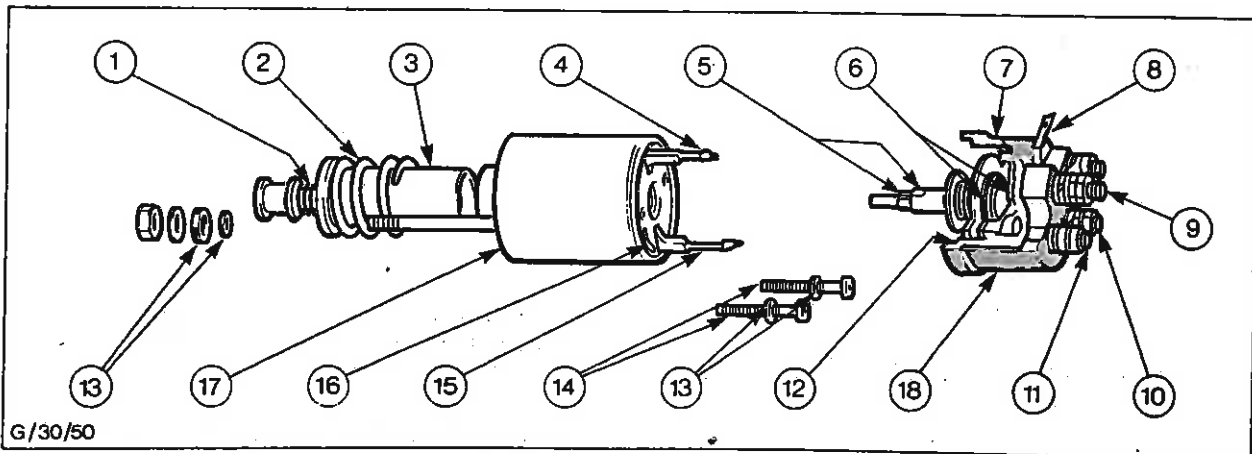

Fig. 9 - Solenoid Dismantled
In addition to the engagement spring inside the plunger and the return spring outside the plunger the solenoid plunger is also fitted with a lost motion spring (Fig. 9) which provides a measure of lost motion as the drive commences to disengage, ensuring that the solenoid contacts are open before the pinion retracts. This also takes effect if the pinion remains engaged with the flywheel ring gear when the solenoid switch is released.
After being in service for long periods, the contacts may require renewing. If this is necessary, the major part of the solenoid can be retained and the solenoid repaired by fitting a service replacement contact set comprising terminal and base assembly - refer to Fig. 9.
2. Fit the sealing ring to the groove in the intermediate bracket. Also fit the sealing washers to the fixing bracket, one at each end, through the bolt entry point and one on the dowel peg (Fig. 9).